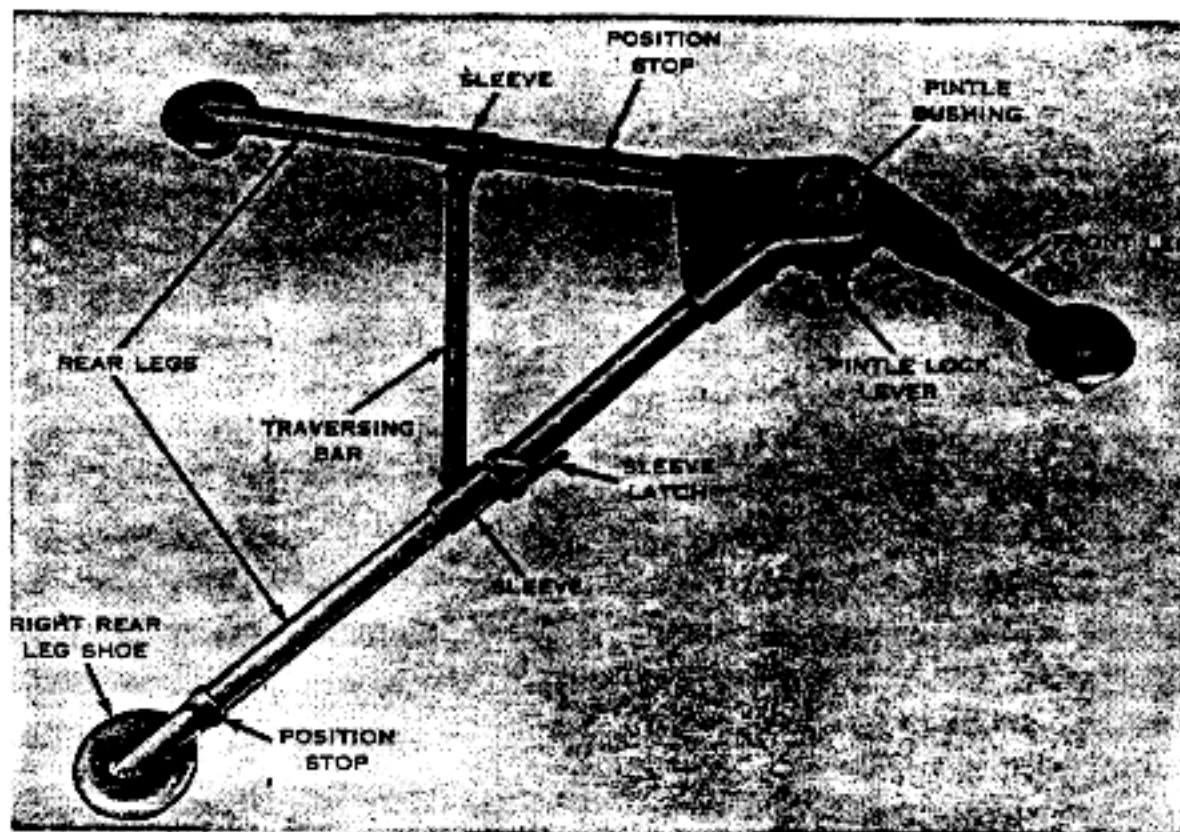

Figure 54. Machinegun mount M2, without elevating mechanism.
b. *Tripod Group* (fig. 54). The central member of this tripod is the tripod head. The gun pintle fits into the pintle bushing, which is located in the tripod head. It is locked into the bushing by means of the pintle lock. Two trail legs and one front leg extend from this tripod head. The rear legs are connected and additionally supported by a traversing bar. The traversing bar has an engraved scale to assist in measuring or establishing horizontal angles. This scale is divided into 100-mil major divisions and 5-mil subdivisions, up to 450 mils left and 425-430 mils right of zero. The traversing bar has sliding sleeve devices